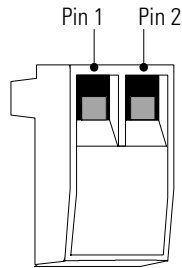

Figure 21. REPO Connector
3. Connect isolated, normally-closed, dry contacts (rated to handle 60 Vdc maximum, 30 Vac RMS maximum, and 20 mA maximum) across the REPO device to Pin 1 and Pin 2 (see Figure 21). Use stranded, non-shielded wiring, size 18–22 AWG (0.75 mm^2 – 0 mm^2).